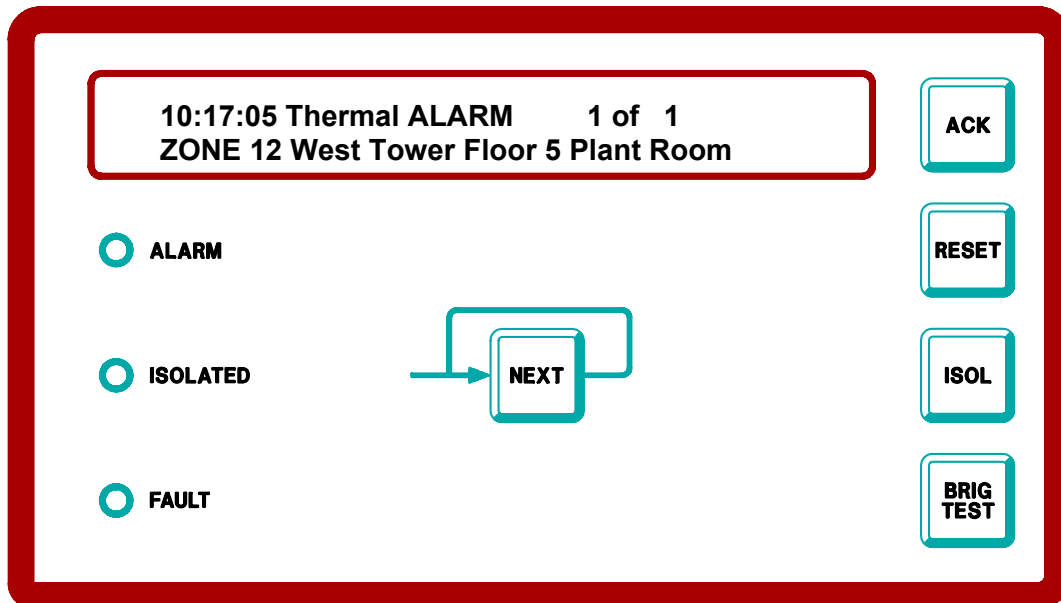

FIG 5.1
When an alarm occurs, the FIP switches from the base (or other) display to FFCIF mode and displays the alarm (see note following re FFCIF mode). The keys that can be used are then limited to those within the Fire Fighters Control and Indicating Facility (FFCIF), plus the "PREV" key, the "CLEAR ESC" key and the "BELLS ISOL" key. The FFCIF is the area of the keypad within the red border, as shown in Figure 5.1.
- (iii) Whether the alarm is acknowledged or not (Figure 5.1 shows an unacknowledged alarm).